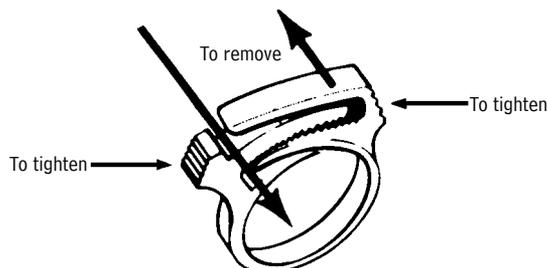

Figure 3
2. Install the small nylon clamp over the air entry sleeve and cooling vest connector hose. Engage the clamp locks and squeeze until tight (Figure 3).
2. Install the large nylon clamp over the breathing tube sleeve and breathing tube, inserting the clamp locks through the two holes in the plastic anchorplate. Locks should face away from the user's neck. Engage the clamp locks and squeeze until tight (Figure 3).